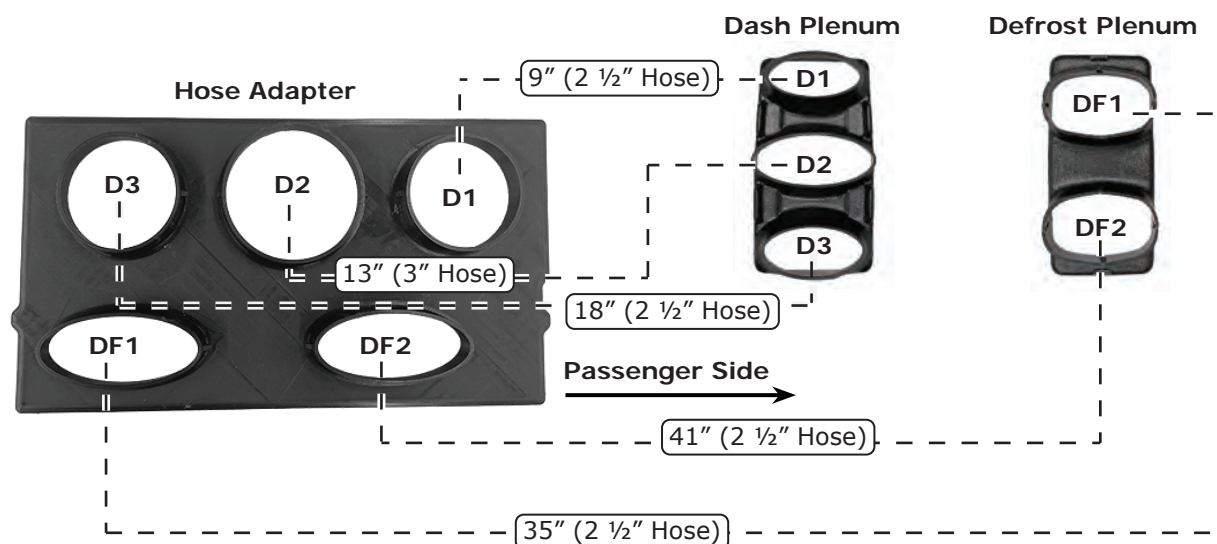

Figure 1
2. Connect the 2 ½" duct hoses to Defrost 1 (DF1) and Defrost 2 (DF2) on the hose adapter as shown in Figure 1, below. Leave the other ends of the duct hoses disconnected on the driver-side floorboard.
3. Connect the 2 ½" and 3" duct hoses onto Dash 1 (D1), Dash 2 (D2) and Dash 3 (D3) on the hose adapter, then onto the dash plenum as shown in Figure 1, below.
4. Finally, connect the 2 ½" duct hoses from the hose adapter onto Defrost 1 (DF1) and Defrost 2 (DF2) on the defrost plenum as shown in Figure 1, below.